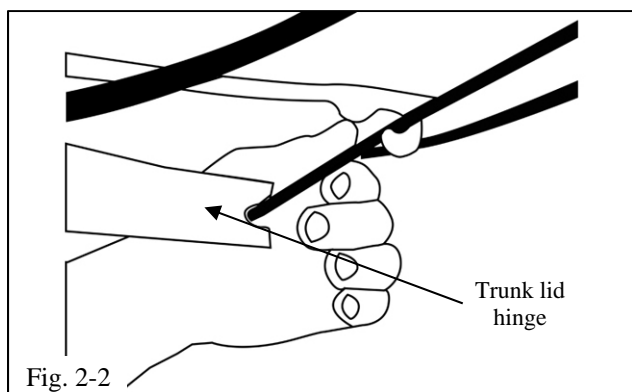

Fig. 2-2
- (b) Carefully push down the torsion bar and release it from the trunk lid hinge (Fig. 2-2 & Fig. 2-3).